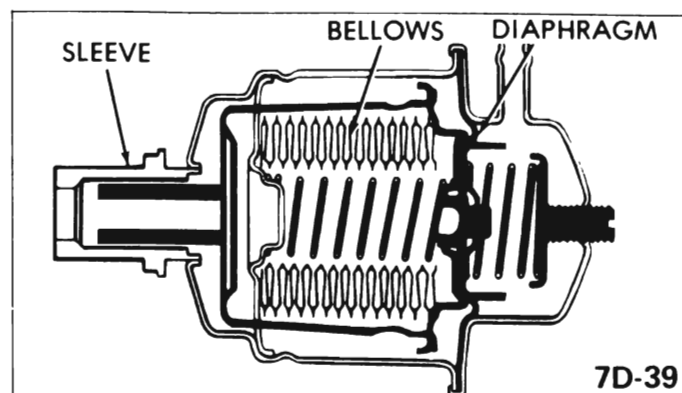

Figure 7D-39 - Vacuum Modulator Assembly
The vacuum modulator, see Figure 7D-39, has three areas to be checked. If any one of the three (3) areas fail to pass the prescribed checks, the modulator must be replaced.